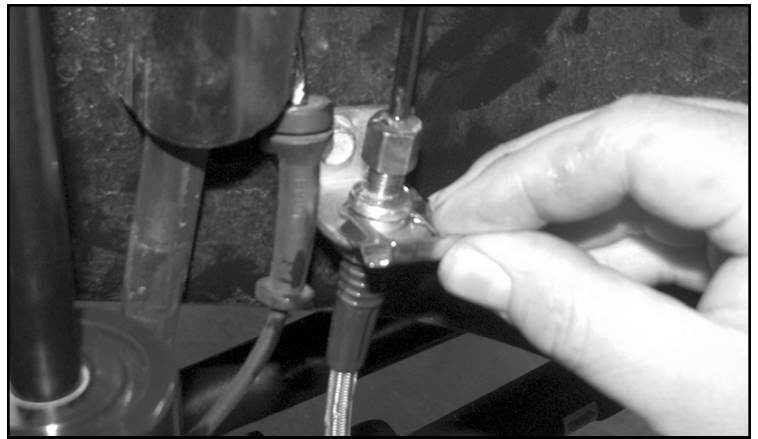

FIGURE 40 - STEP 33
33. Insert the new brake line fitting through the bracket and install onto the factory brake hard-line. Next, install the supplied u-clip to secure the line to the bracket. **SEE FIGURE 40**